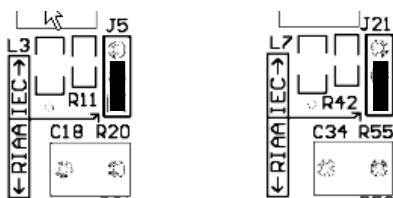
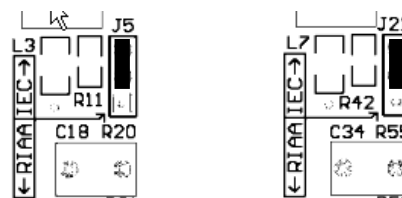

Figure 6: RIAA Equalization curve jumper setting
Figure 7: IEC Equalization curve jumper setting
The **MOON 310LP** Phono Preamplifier is equipped with circuitry for two (2) different equalization curves; The RIAA standard and the less common IEC modified curve. The main difference is that the RIAA curve produces a flat frequency response from 20Hz to 20kHz; The IEC curve acts as a subsonic filter removing inaudible infrasonic bass below 20Hz. Jumper sockets J5 and J21, for the left and right channels respectively, are used to set the **310LP's** equalization curve. These jumpers sockets have three pins allowing for 2 different possible positions. The factory default position is for the RIAA curve as shown below in figure 6 where the jumper connects the lower 2 pins. To select the IEC curve, place the jumper over the upper 2 pins as shown in figure 7 below.